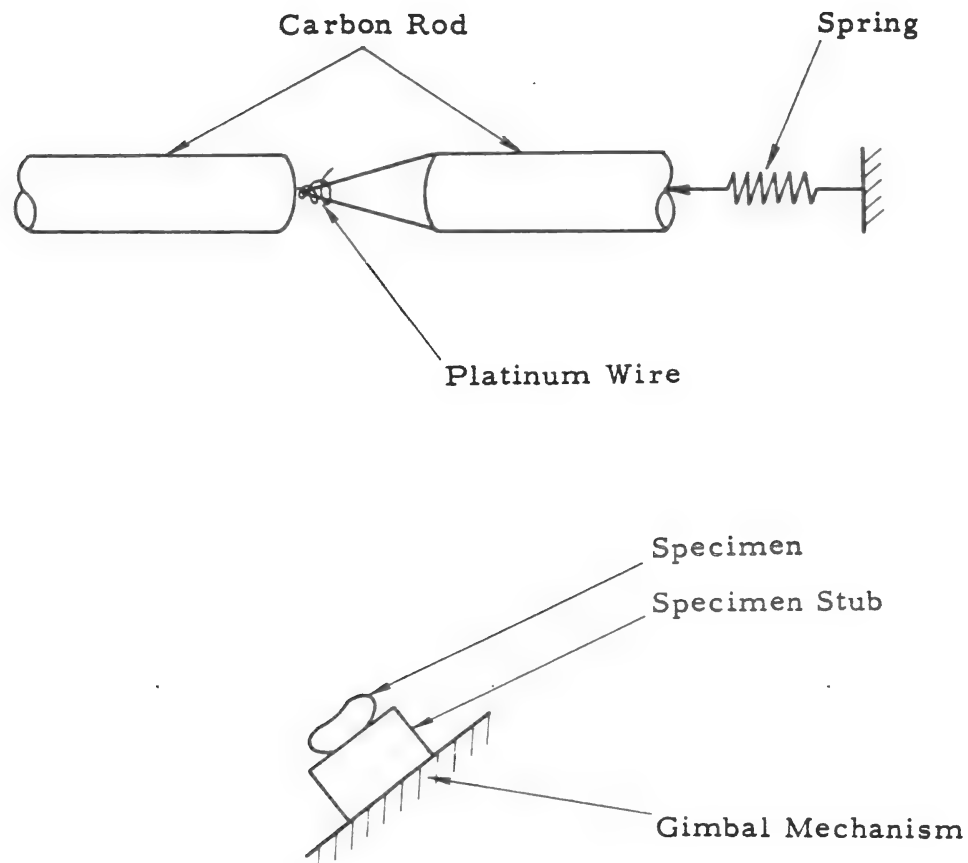

Fig. 2-19 Carbon-Platinum Evaporating Method
- (1) Carbon rods are used as electrodes. The carbon rod is ground flat at one end and pointed conically at the other end. See Fig. 2-19.
- (2) Wind a platinum wire of about 0.1 mm dia. x 3 cm long on the conical tapered tip.